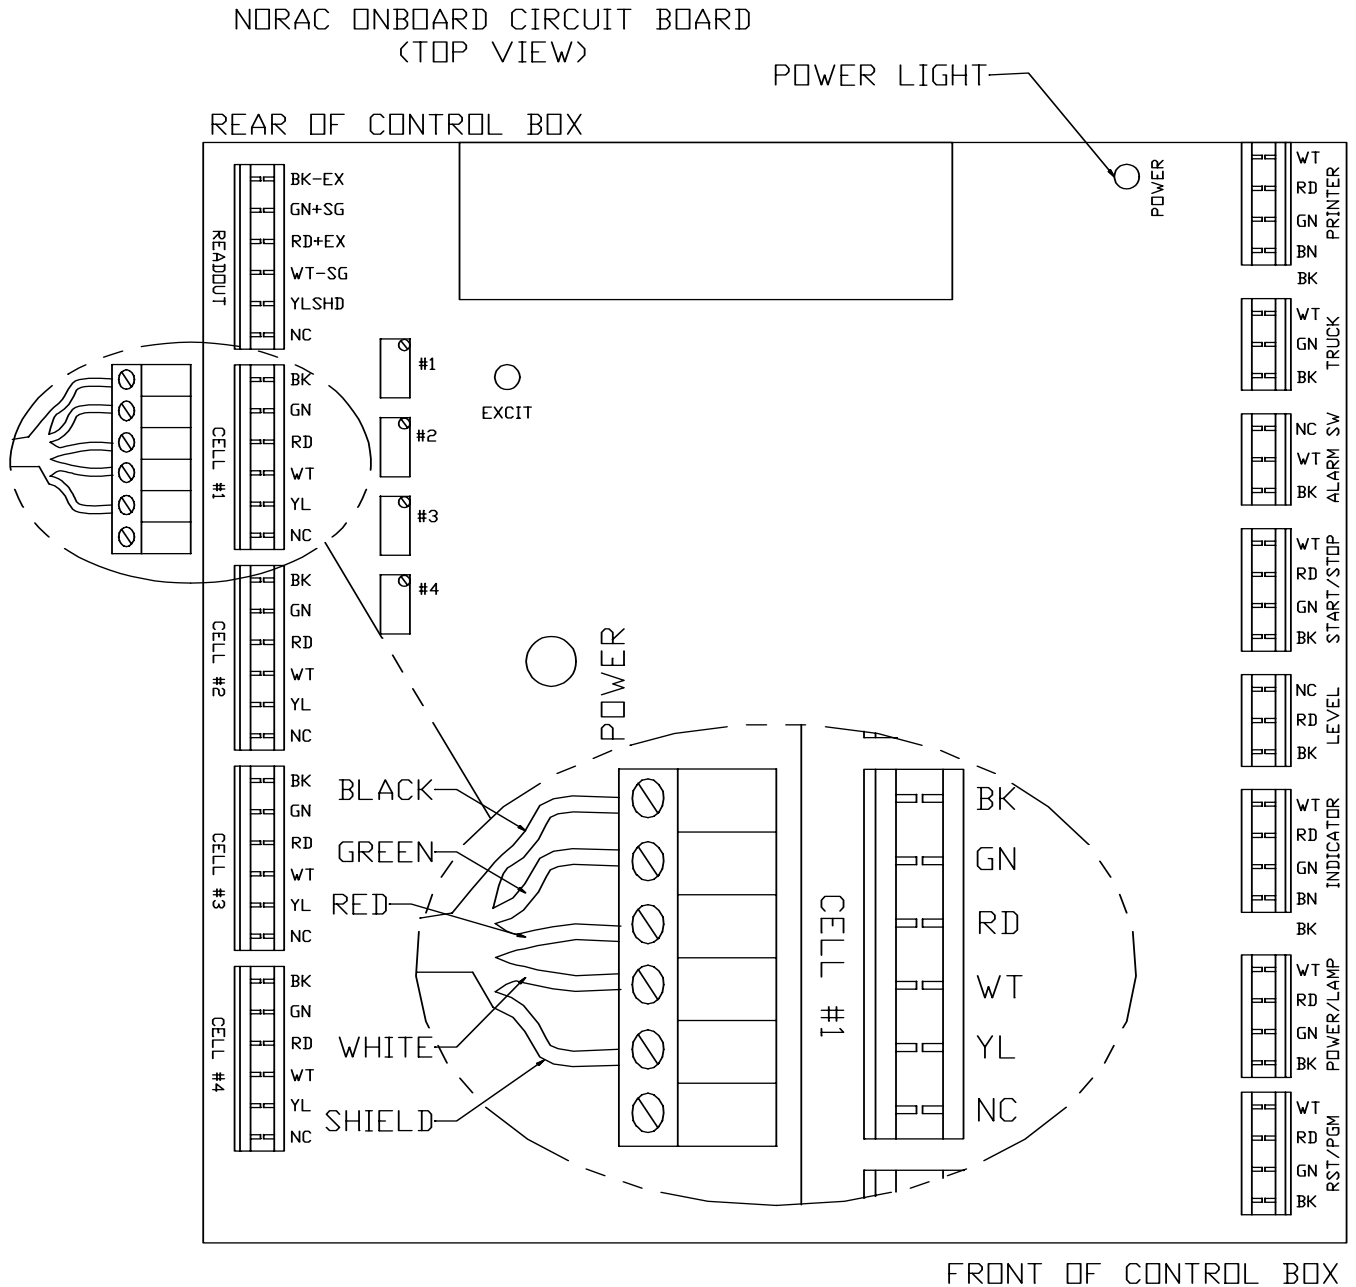

**Figure 20 – Circuit Board, Load Cell Connections & Trimmer Locations**
**cutting load cell wires.** See Figure 20 for where to wire the load cells to the circuit board.
4. For each load cell remove the connector from the board and attach to the load cell cable according to Figure 20. The wiring color code for the load cells is also shown.
Before the scale can be calibrated, all load cells must be balanced and responding to loading equally by adjusting the balance trimmers. The balance trimmers are located on the main circuit board, inside the control panel (see Figure 20). They are initially set to 2-Ohm resistance. Use the following procedure to balance the load cells.
6. Pick the lowest reading and adjust the other cells down to this value with the trimmers inside the control box (see Figure 20). To adjust a cell use the following procedure: